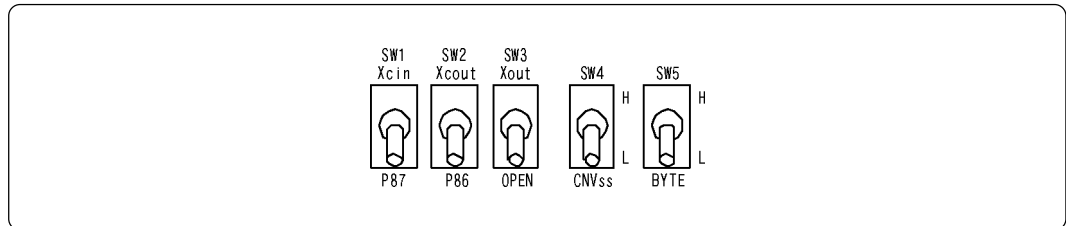

Figure 4.3 Switch settings when running the self-check
- (1) Set the switches in the emulation pod same as the factory settings (see Figure 4.3).
- (2) If the target system is connected, disconnect it.
- (3) Within 2 seconds of activating power to the emulator, press the RESET switch on the emulator front panel to switch the emulator to maintenance mode.
- (4) Check the "SAFE" LED starts blinking and then press the system RESET switch again.
- (5) The self-check will start. If the normal result is displayed in about 1 minute, the self-check terminated normally.
- Check if the switches in this product are set same as the factory-settings (Figure 4.3 above).